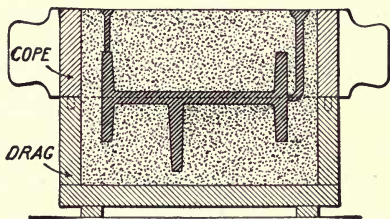

FIG. 206.—Cope and Drag of a Pattern.
**508. Flasks and Cores.**—The box in which the sand is molded from the pattern is called a flask. It consists of two or more parts, open at top and bottom. Its purpose is to hold in position the sand of the mold during the operation of molding. The lower or bottom part of the flask is called the drag and the top or upper part the cope (Fig. 206), while any intermediate parts are termed cheeks. The parts of the pattern are also known as the drag, cheek, or cope according to the portion of the flask in which they were molded. If a special pattern is to be constantly used in manufacturing a certain line, it is well to make both the flask and the pattern of metal for the sake of wear and durability.